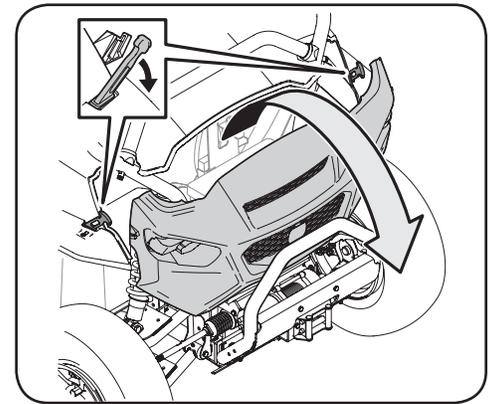

Figure 6-9
1. Remove hood latches and lower the hood. See Figure 6-9.